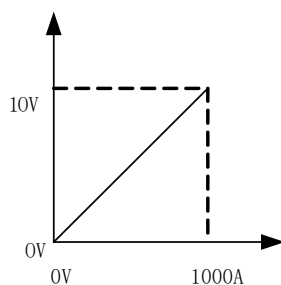

Figure 4-15 Corresponding relationship of real time current feedback
1. Corresponding relationship of real time current feedback, as shown in Figure 4-15;